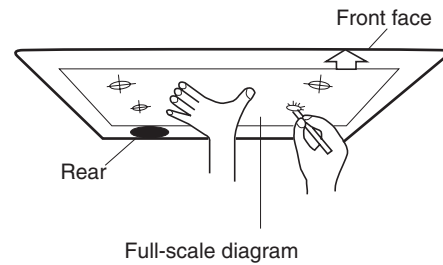

Fig. 1-84
- (1) Place the full-scale diagram (supplied) on the ceiling at the spot where you want to install the indoor unit. Use a pencil to mark the drill holes. (Fig. 1-84).